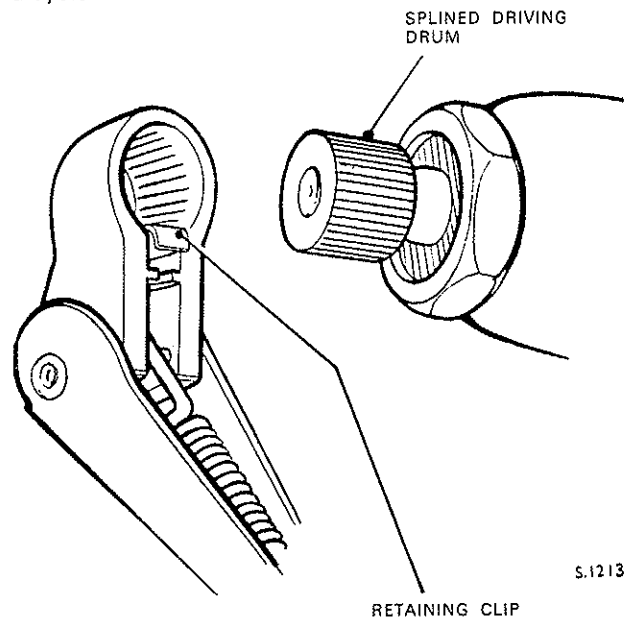

Fig. N.40. Wiper arm attachment
1. Remove the wiper arms (see Fig. N.40).